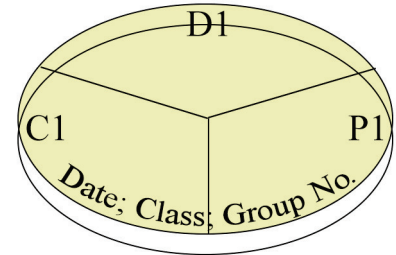

Fig. 24
2. To the bottom of the agar plate, draw 3 lines to divide the plate into 3 sections. Label them “D1”, “P1” and “C1” (Fig. 24).